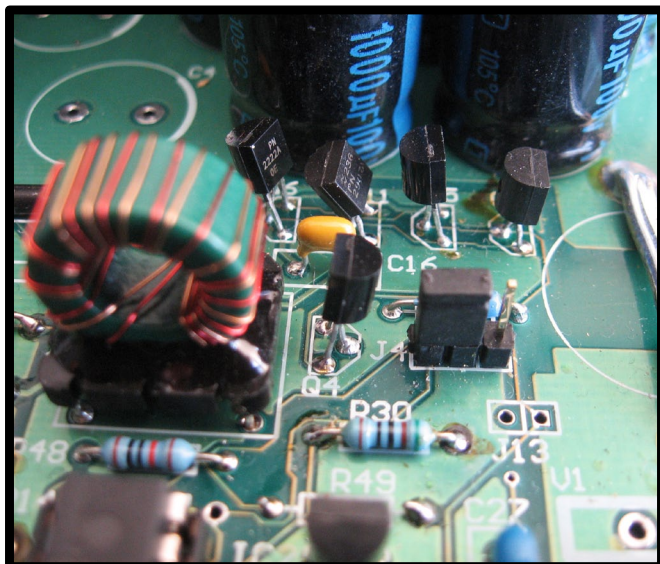
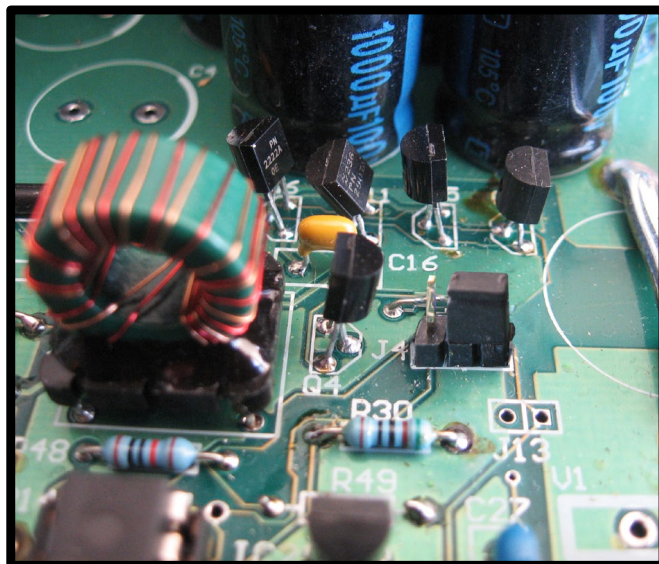

Figure 5 (Above): High Capacity Setting
Figure 6 (Above): Long Life Setting
4. Shift link on J4 to desired battery setting (High Capacity – **see Figure 5**, Long Life - **See Figure 6**) .